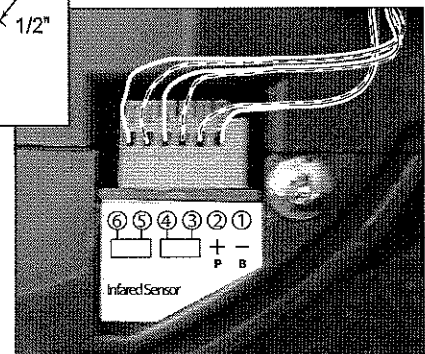

FIG. 4-8 Insert wires.
- Insert wire into terminal holes and lightly press in the orange locking clips above each terminal hole. (You can use a pencil or small screwdriver to comfortably reach in and lightly press down locking clips.) Insert white wires to 'even' terminal holes and striped wires into 'odd' terminal holes (Fig. 4-8).